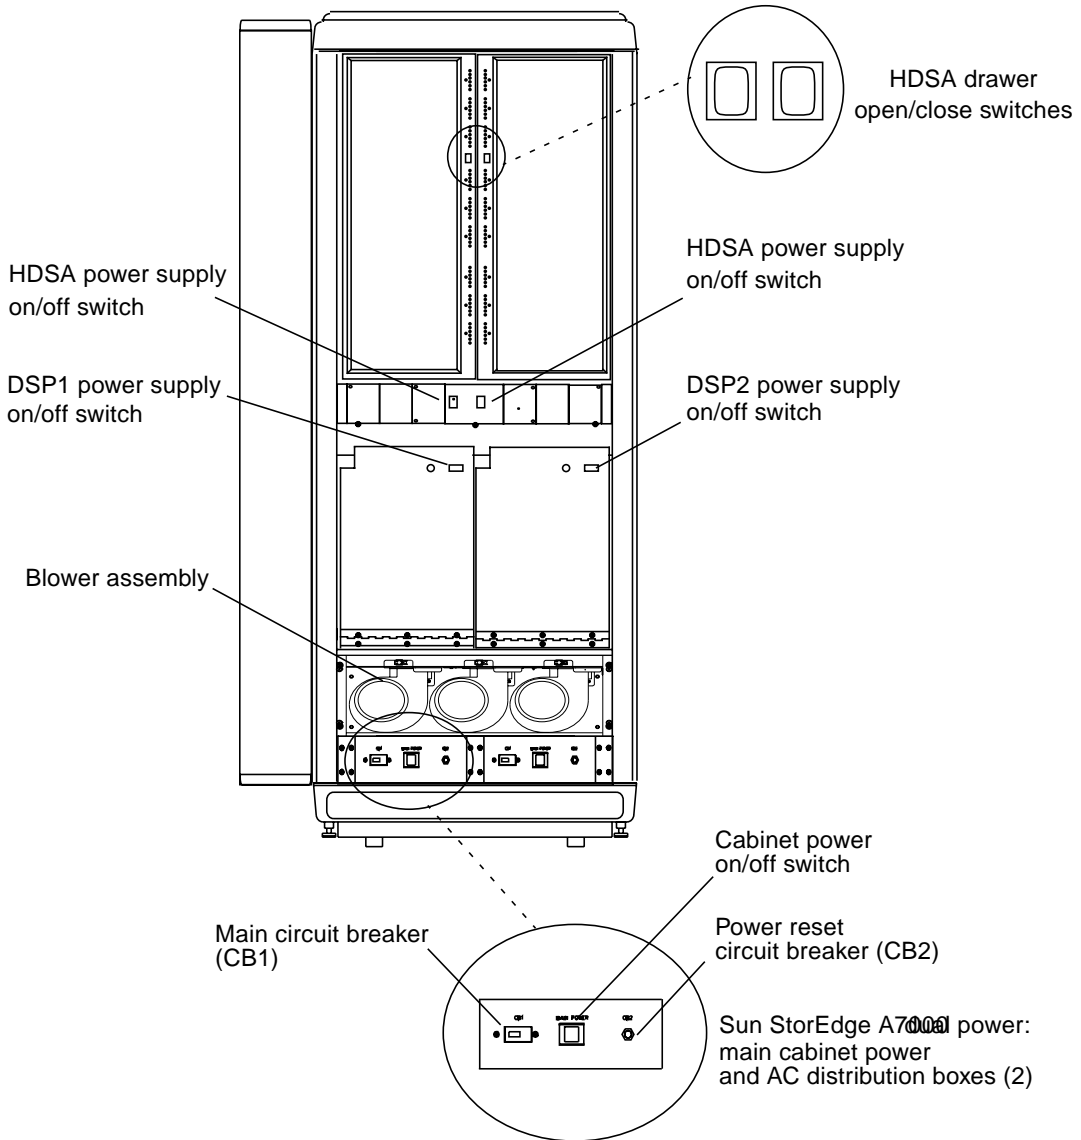

FIGURE 6-20 Cabinet Power Supply Switches
1. Power on the cabinet supplies by pressing the cabinet power switch, shown in FIGURE 6-20.
The cabinet blower fan housing is located at the front of cabinet, just above the AC box, as shown in FIGURE 6-20. It contains three blower fans.